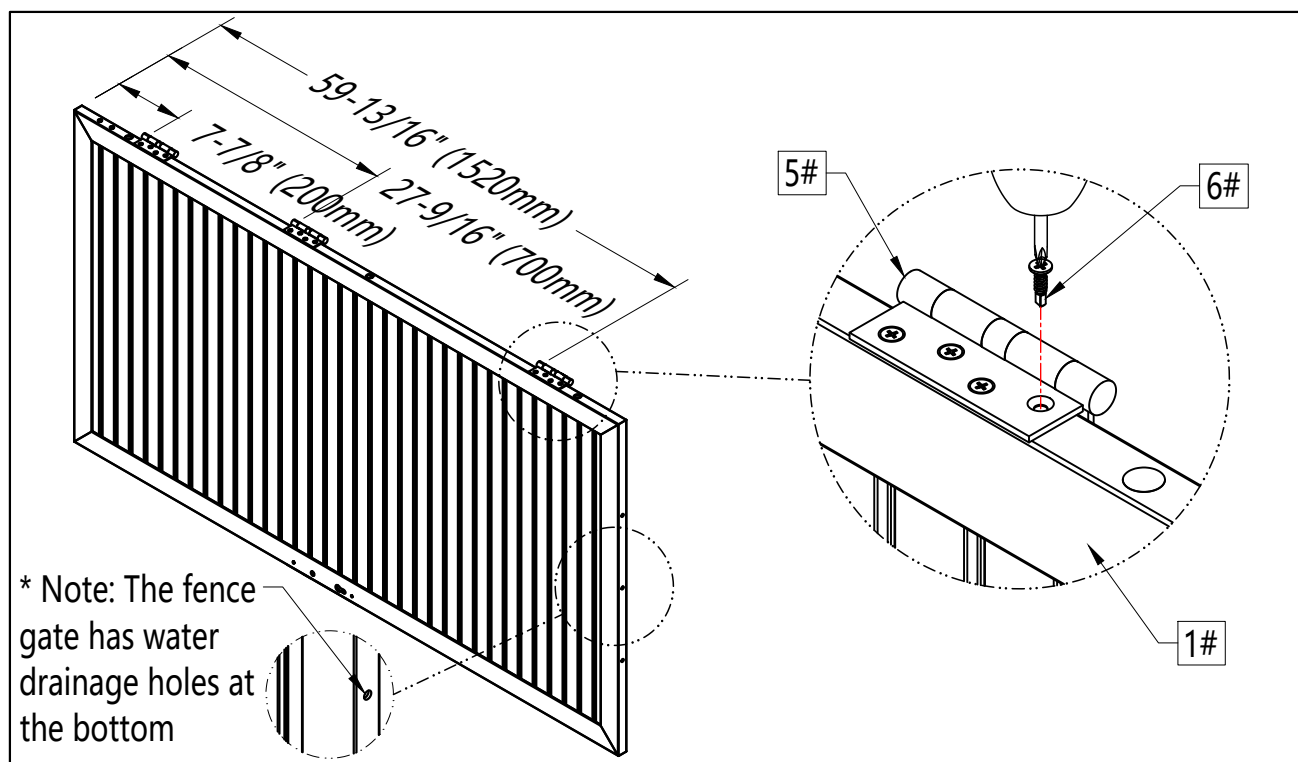

Figure 9
- 9 After confirming the direction of the Hinge (5#), measure the position of the hinge on the Fence Gate (1#). Then secure the hinge with Screws (6#), as shown in Figure 9.